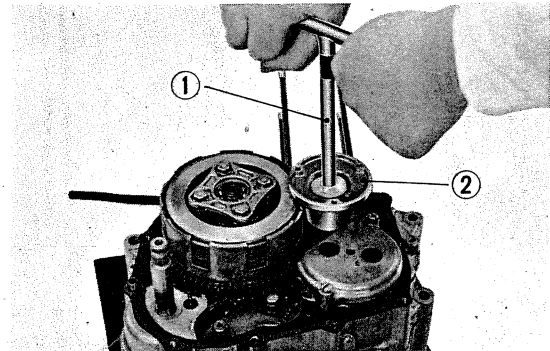

Fig. 56 Lock nut removal
- 3) Unscrew the 6mm lock nut and remove the oil filter rotor. (Fig. 56)